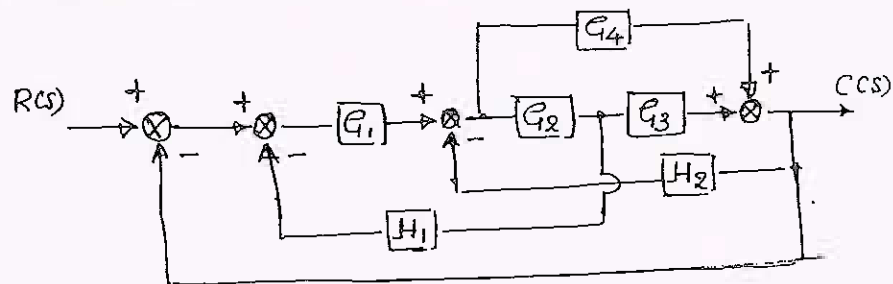

Fig.Q4
- 4 Reduce the block diagram shown in Fig.Q4. Also verify the answer using signal flow graph and Mason's gain formula.